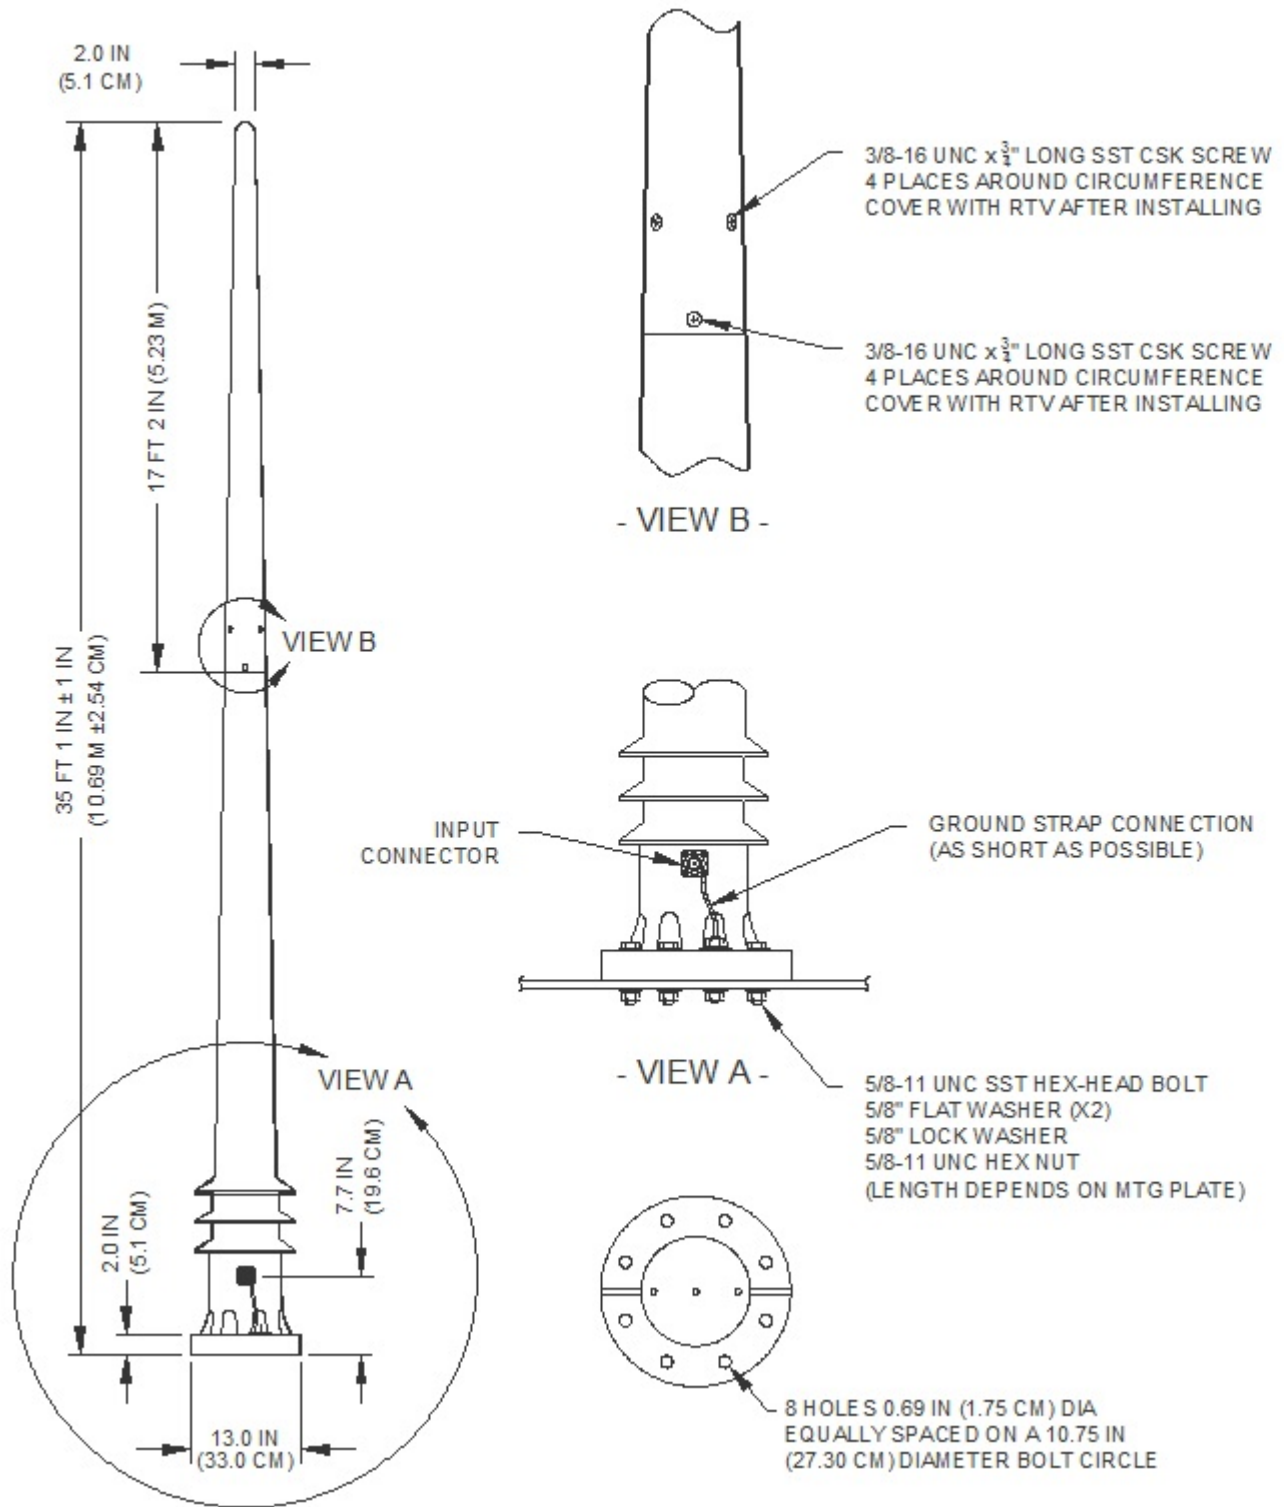

Figure 4-1 - Outline Drawing
- 4-4 **FOUNDATION.** The antenna should be installed vertically on a mounting plate that has bolt holes matching those in the antenna base (see figure 4-1).
h. Make sure the ground strap supplied with the antenna is connected to one of the mounting bolts directly below the input connector on the antenna as shown in Figure 4-1.